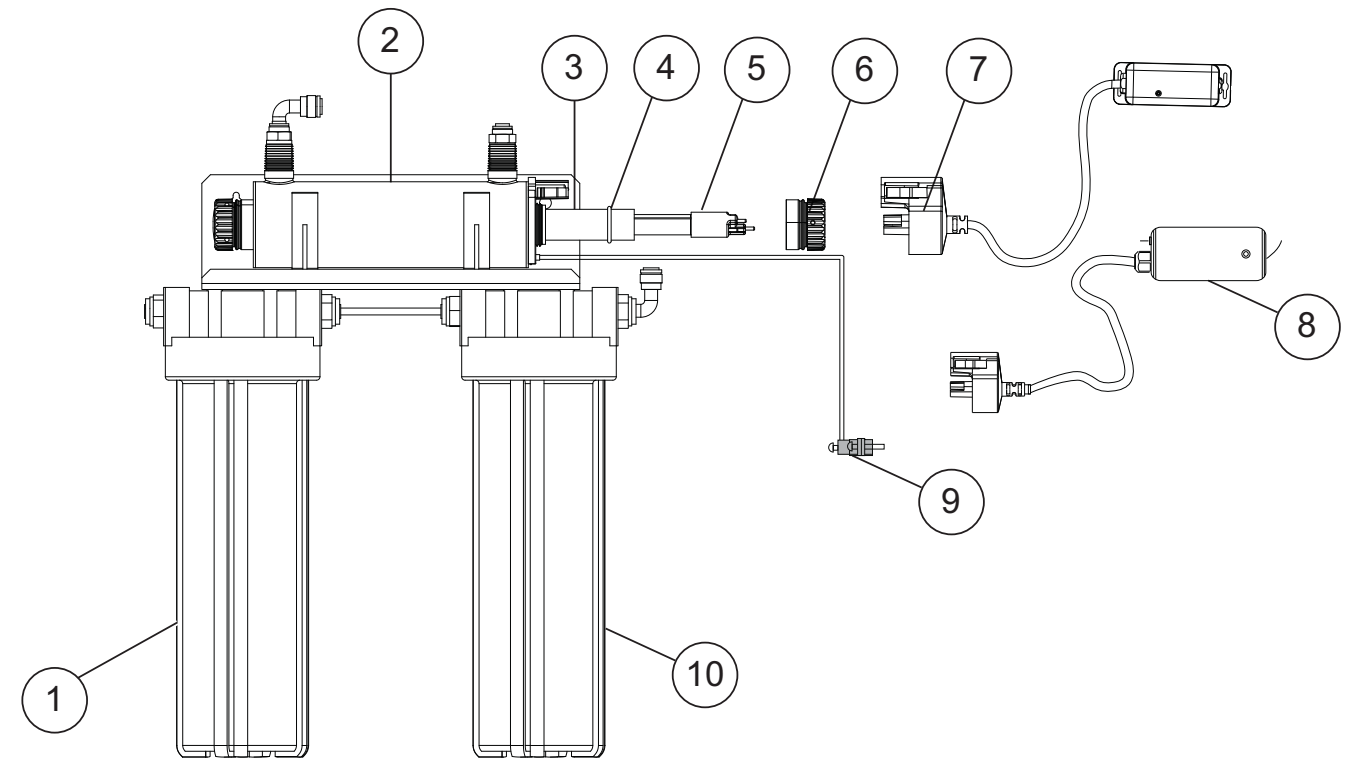

Figure 1 System Components
3. Mount the system to the wall using the two mounting holes in the back of the disinfection system with appropriate fastening devices. Refer to Figure 1.